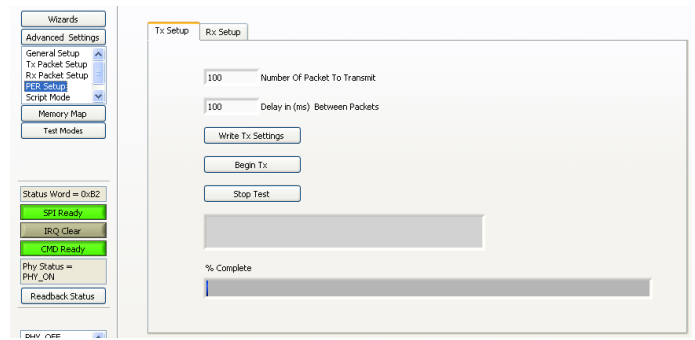

Figure 32
- Click on the “Advanced Settings” button, on the Tx GUI instance, and navigate to the PER option. Select the Tx Setup tab in the new window (Figure 32).